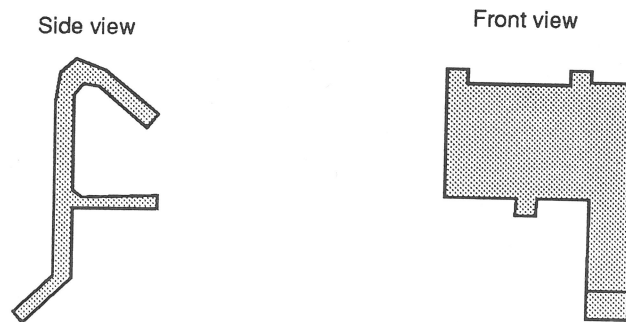

FIGURE 4
2. Position the interrupter device (Figure 4) on the black rubber drive belt in the following way: